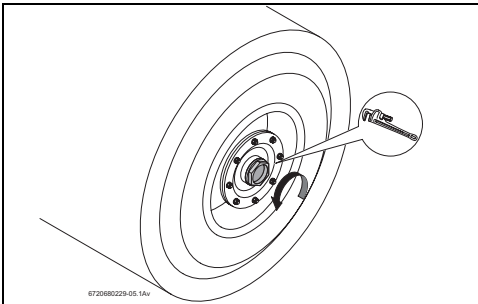

Fig. 3
- ▶ Unscrew the 1"½ pipe plug of the orifice of the heating element by turning in a anti-clockwise direction (→ Fig. 3).